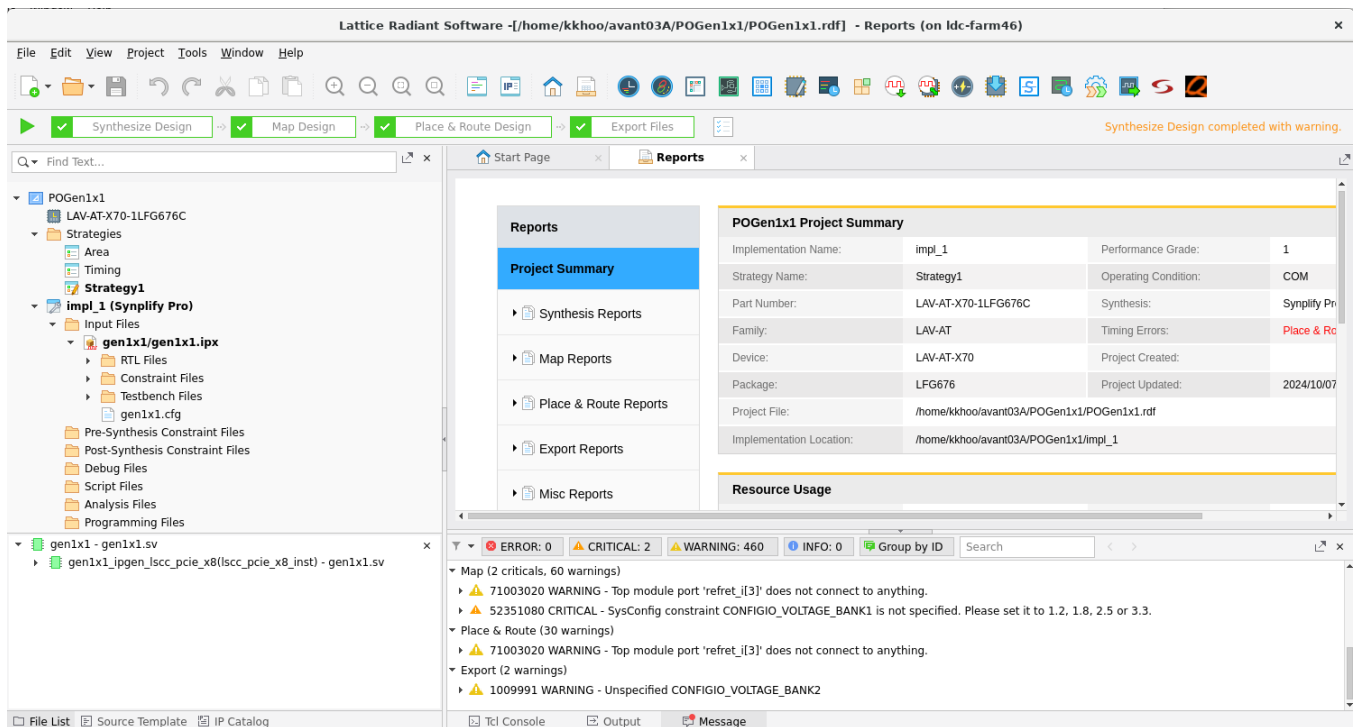

Figure 7.9. Project Compile Done
- Click **Run All** to compile the IP. Compilation successful is shown in Figure 7.9.